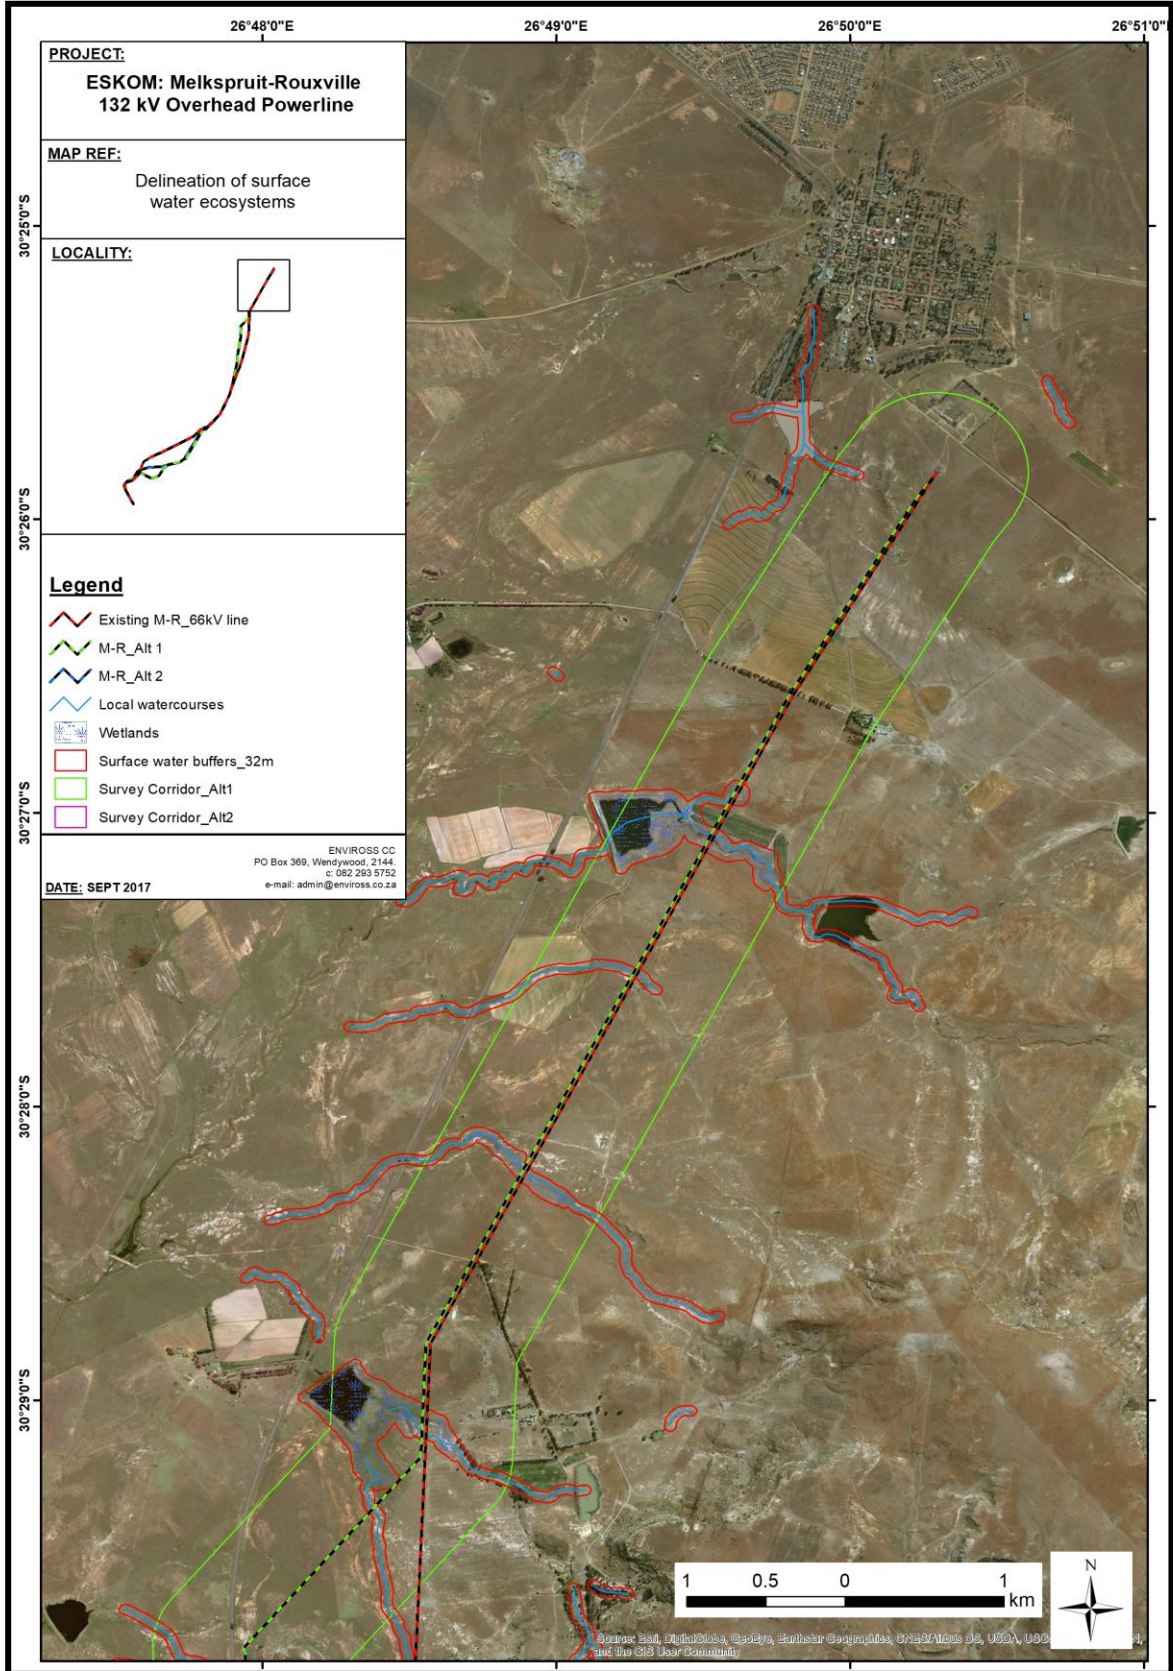

Figure 2: North 1 Surface Delineation Map
Figure 2: North 1 Surface Delineation Map.....	4
- All wetlands and other watercourses have been delineated and designated appropriate conservation buffer zones. All established aquatic habitat must be spanned across to help prevent adverse impacts on these areas. The establishment of tower positions within wetland habitat must be avoided as far as possible and the surface water ecosystem should be adhered to, which are shown in *Figure 2* to *7* below.
The maps for delineation of surface water ecosystems are shown in *Figure 2* to *7* below.